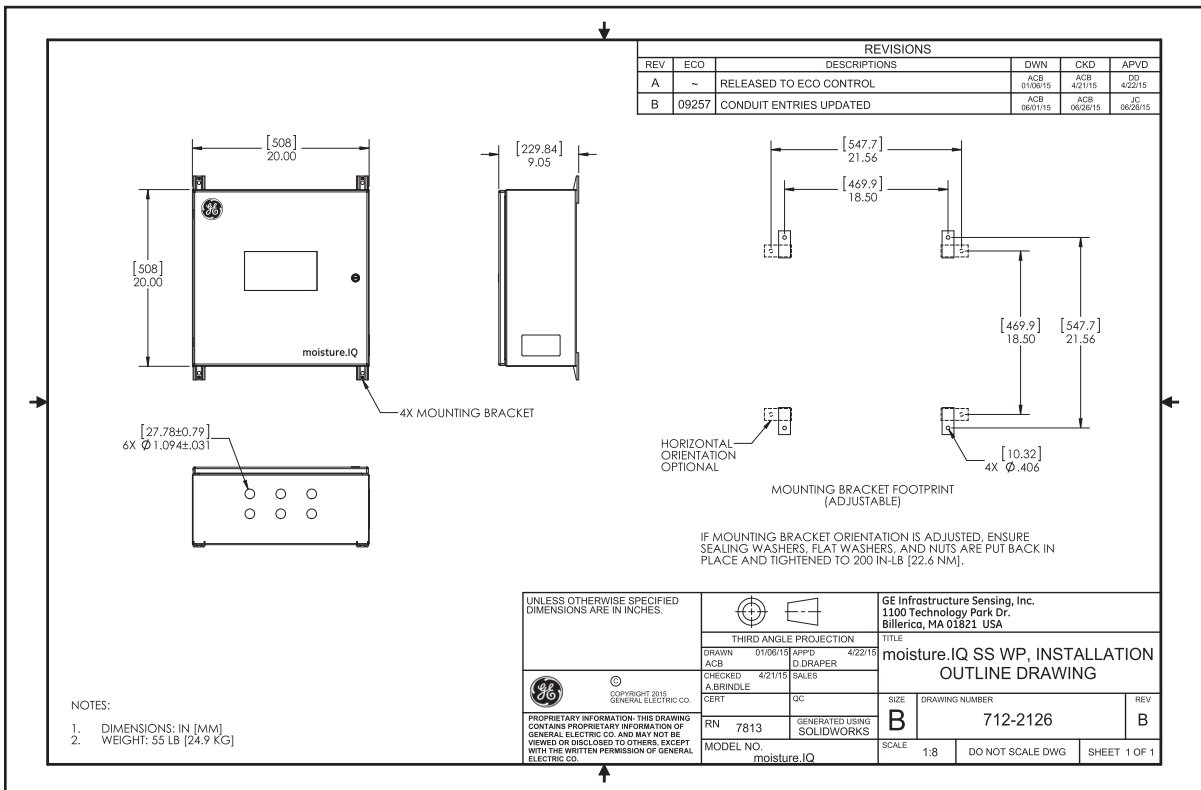
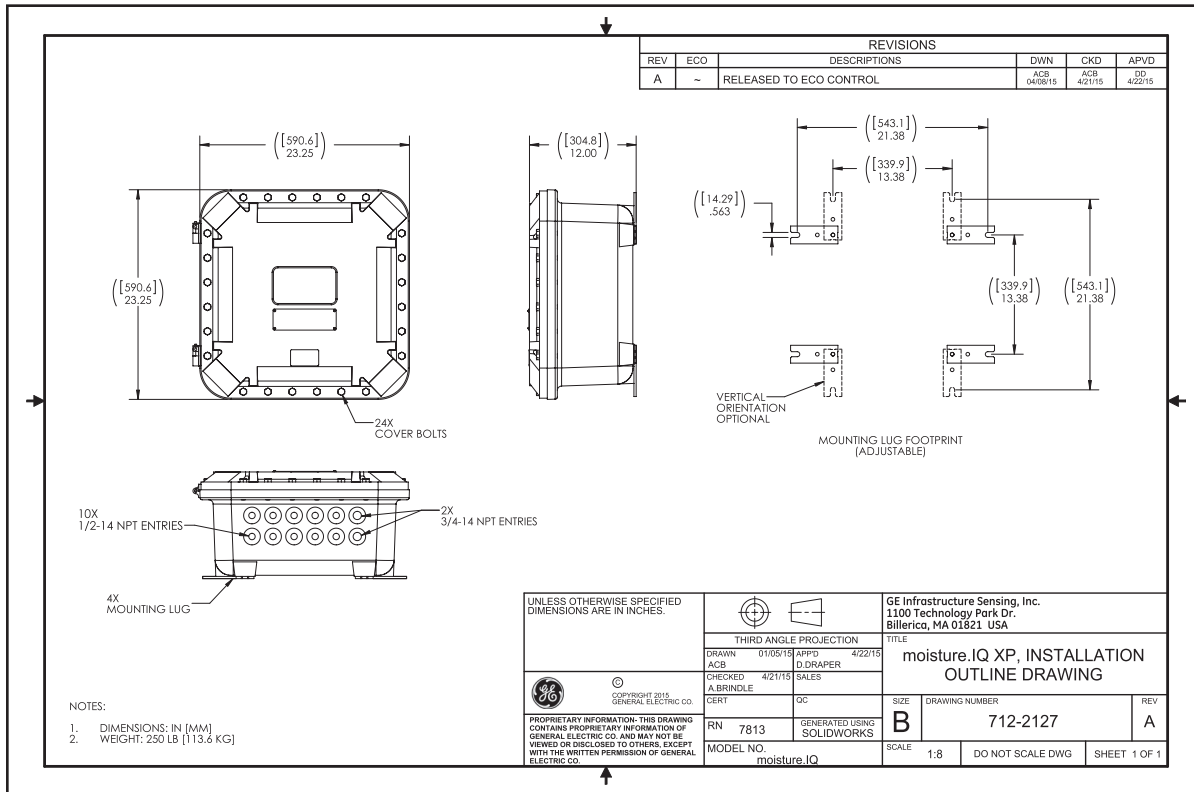
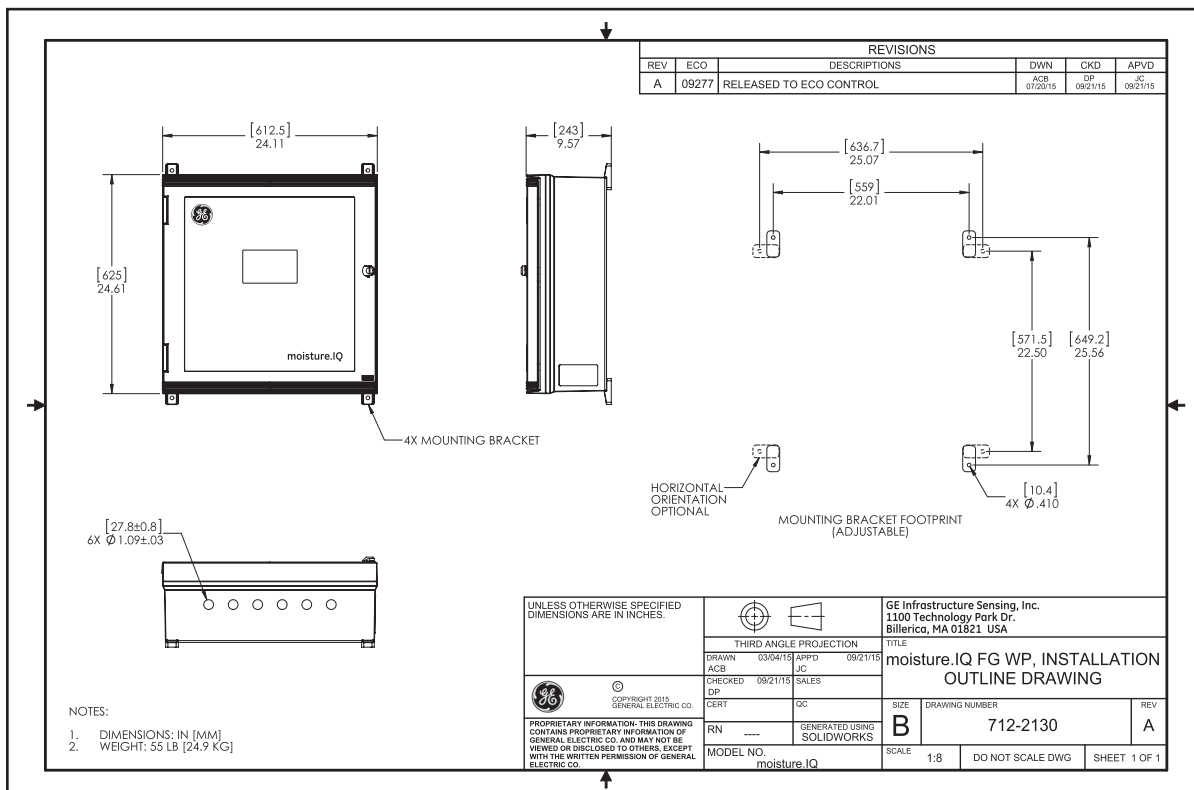

Figure 12: SS-WP Installation Outline Drawing (Dwg. 712-2126_revB, SH 1 of 1)
Figure 13: XP Installation Outline Drawing (Dwg. 712-2127_revA, SH 1 of 1)
Figure 14: FG-WP Installation Outline Drawing (Dwg. 712-2130_revA, SH 1 of 1)
- The installation should comply with installation drawings 712-2126 stainless steel weather-proof (see *Figure 12 on page 7*), 712-2127 explosion-proof (see *Figure 13 on page 8*), and 712-2130 fiberglass weather-proof (see *Figure 14 on page 8*).